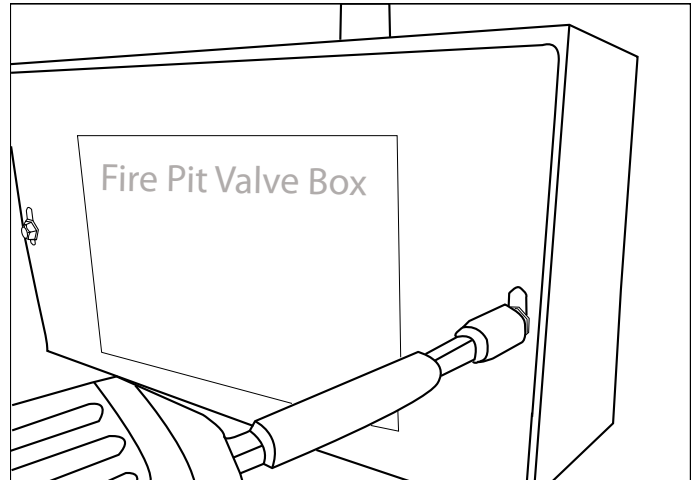

Fig. 10 Removing the cover from metal box.
1. Remove the two screws securing the cover on the control box (See Fig. 10). The cover will slide down exposing the gas valve and control module.